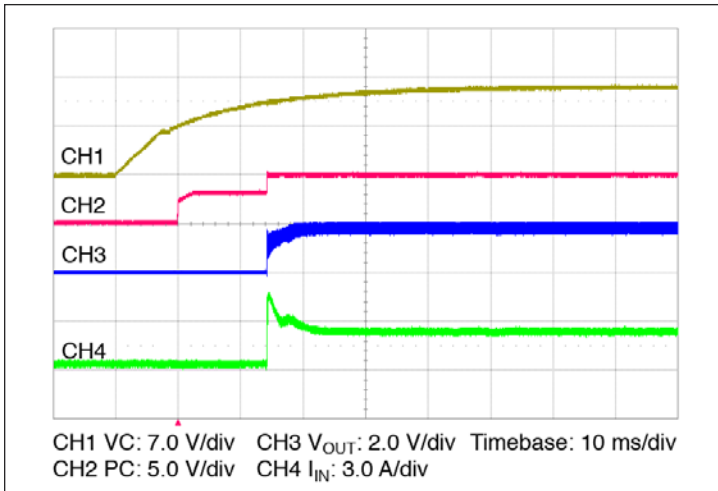

Figure 11 – Start up from application of VC; V_{IN} pre-applied
- Stand-alone operation (VC applied after V_{IN}): In this case the VTM output will begin to rise upon the application of the VC voltage (See Figure 11). The Adaptive Soft Start Circuit (See Section 11) may vary the output rate of rise in order to limit the inrush current to its maximum level. When starting into high capacitance, or a short, the output current will be limited for a maximum of 120 µ/sec. After this period, the Adaptive Soft Start Circuit will time out and the VTM module may shut down. No restart will be attempted until VC is re-applied or PC is toggled. The maximum output capacitance is limited to 27000 µF in this mode of operation to ensure a successful start.